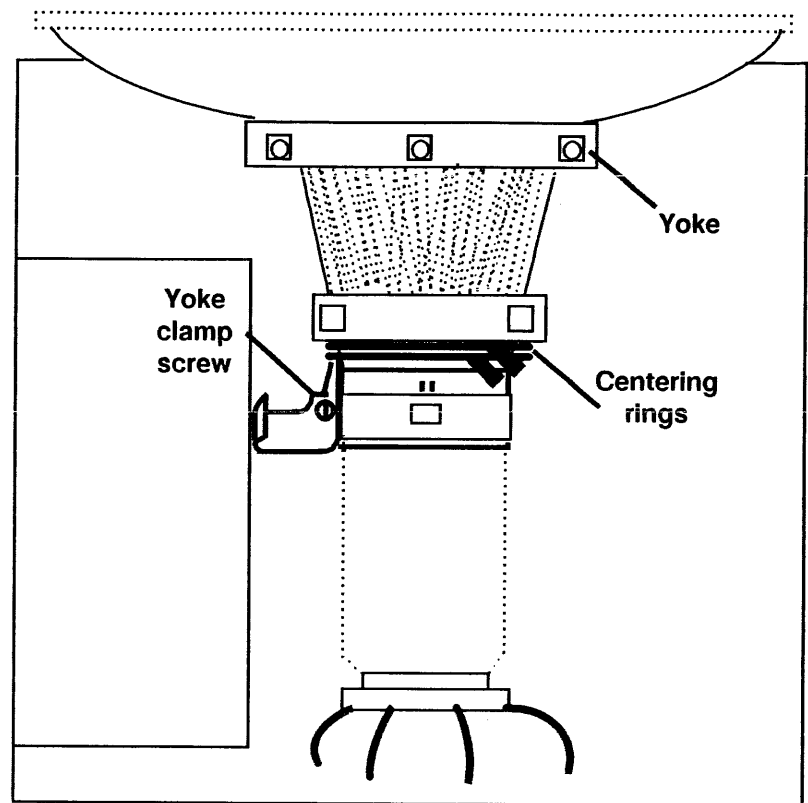

Figure 22. 15 Inch Display Yoke and Centering Rings
- h. Adjust the centering rings on the back of the yoke (Figure 22). If the specifications in step e cannot be met, you will have to tilt the raster. Proceed to step 12.
- a. Loosen the yoke clamp screw one-quarter turn (Figure 22).